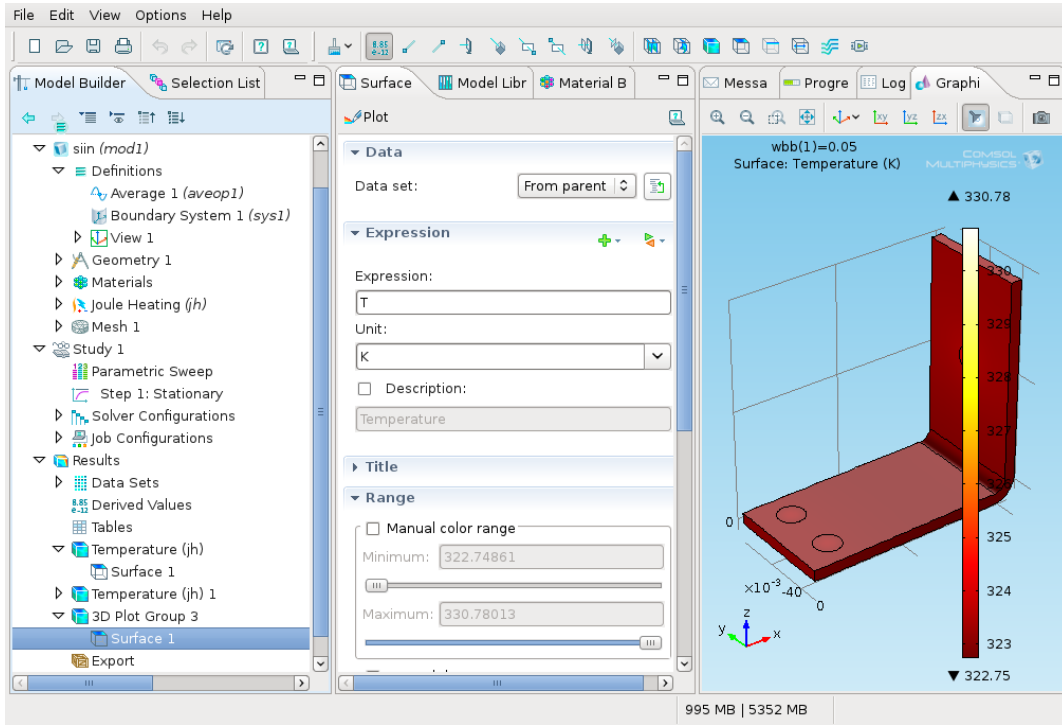

Figure 34: Temperature in the 5 cm wide busbar.
- 2 Compare the temperature plot of the wide busbar to the temperature plot of the narrow one (*wbb = 0.05 m*) (Fig. 34): *Model Builder* → *Results: right button* → *3D Plot Group*.